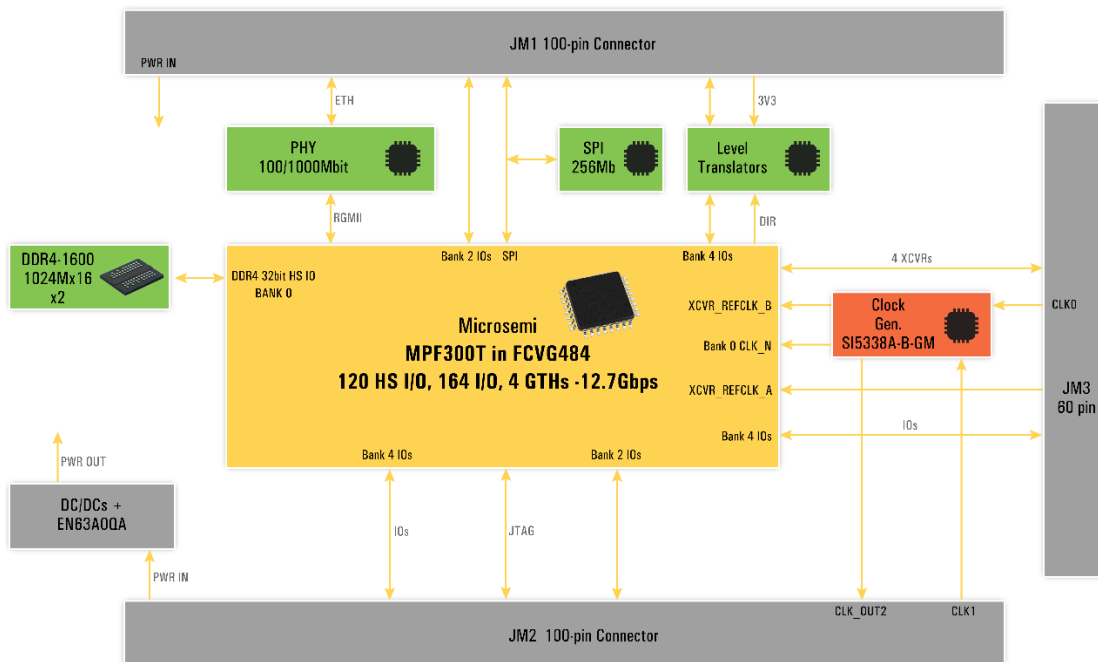

Figure 1 - Block diagram of SoM3-MPF300T
- Figure 1 - Block diagram of SoM3-MPF300T 8